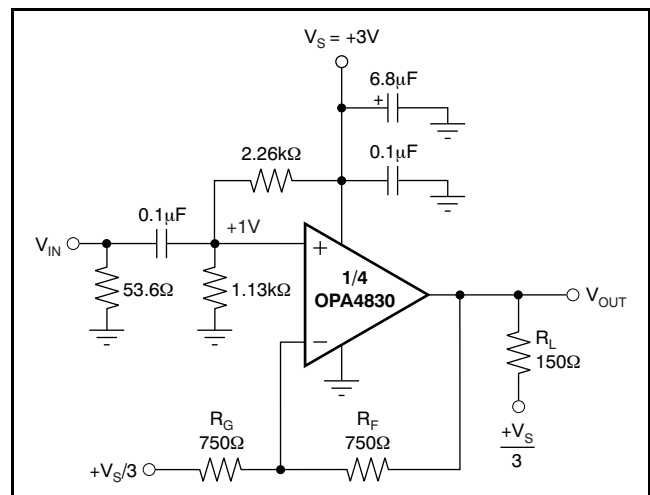

Figure 73. AC-Coupled, G = +2V/V, +3V Single-Supply Specification and Test Circuit
At  $T_A = +25^\circ C$ ,  $G = +2V/V$ , and  $R_L = 150\Omega$  to  $V_S/3$ , unless otherwise noted (see Figure 73).
Figure 73 shows the ac-coupled, gain of +2V/V configuration used for the +3V Electrical Characteristics and Typical Characteristics. For test purposes, the input impedance is set to 50Ω with a resistor to ground. Voltage swings reported in the Electrical Characteristics are taken directly at the input and output pins. For the circuit of Figure 73, the total effective load on the output at high frequencies is 150Ω || 1500Ω. The 1.13kΩ and 2.26kΩ resistors at the noninverting input provide the common-mode bias voltage. The parallel combination equals the dc resistance at the inverting input (RF), reducing the dc output offset as a result of input bias current.